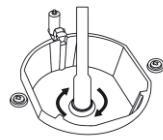

Figure 3
4. Remove the injectors by turning the key counterclockwise. To insert the injectors, do so with great care so as not to damage the threads and do not tighten them with too much force as they could break (Figure 3).